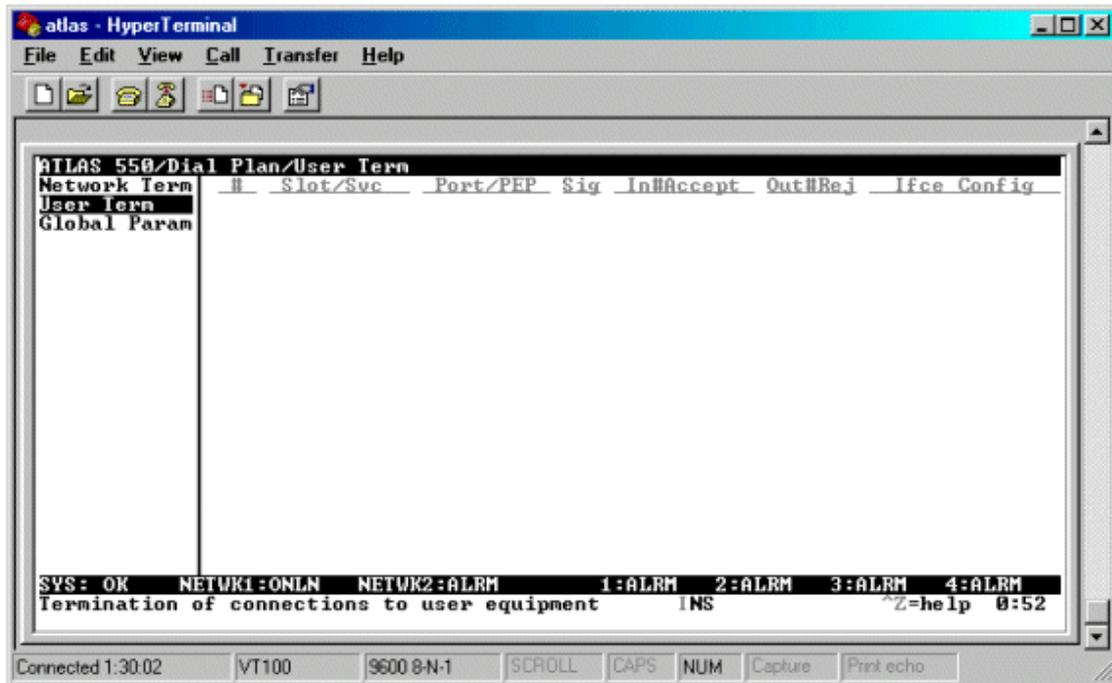

Figure 12
1. Go to **Dial Plan/User Term** and press <enter>. You should see a screen similar to **Figure 12**.